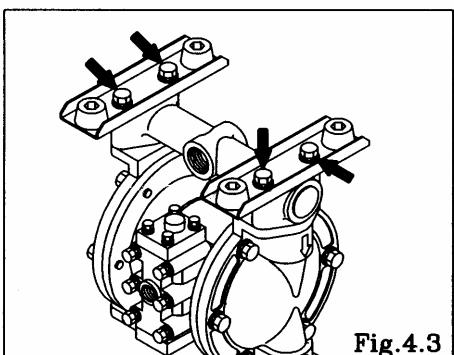

Fig.4.3
- Turn over the main body assembly. [Fig.4.3]
- Remove the 4 retainer bolts from the in manifold, and remove the in manifold and pump bases. [Fig.4.3]